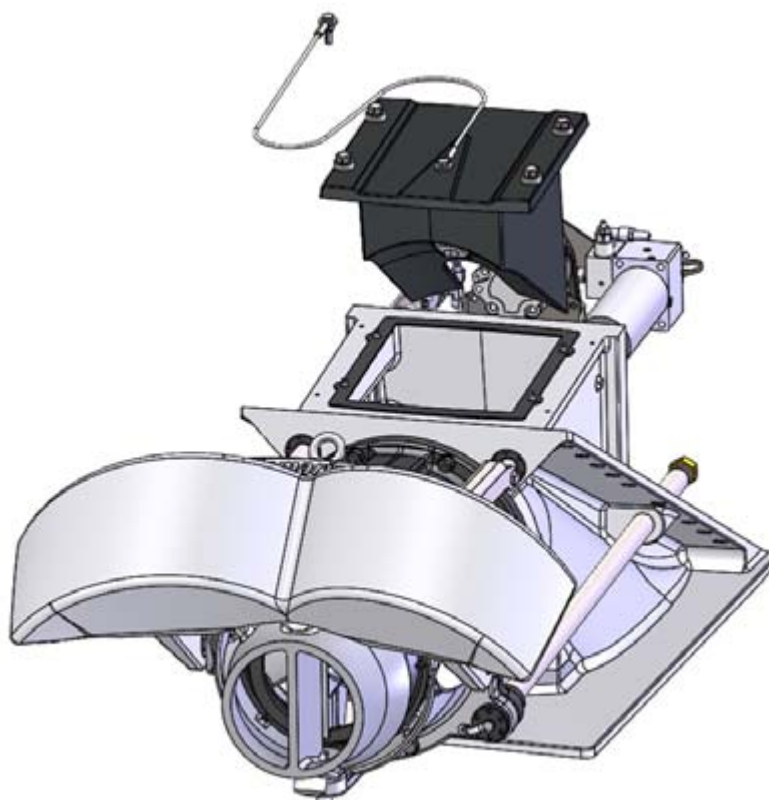

Figure 44. Inspection hatch
1. Open the inspection hatch (figure 44).